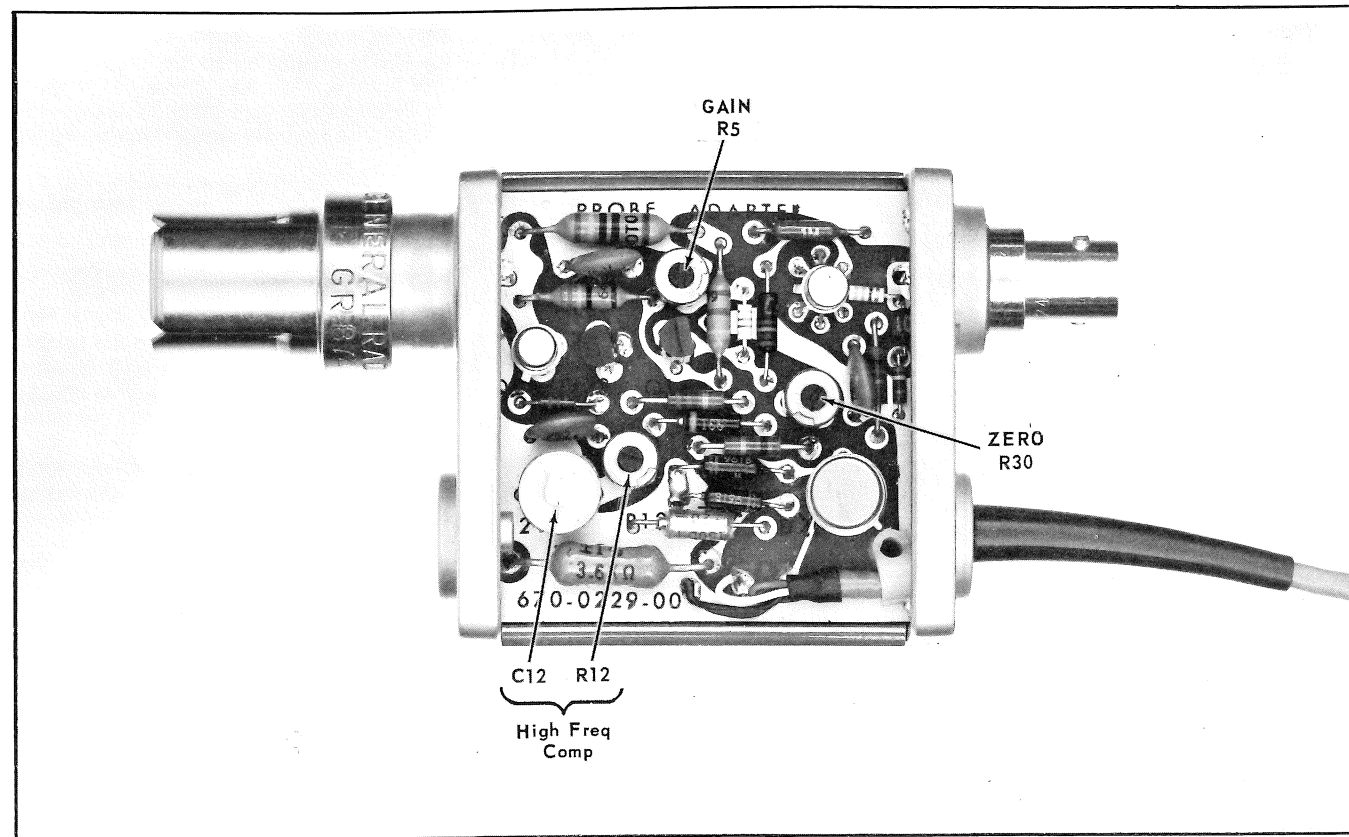

Fig. 5-3. Location of Type 282 calibration adjustments.
- Adjust—ZERO control, R30 (see Fig. 5-3) until the trace is again superimposed on the center horizontal graticule line.
l. Adjust—C12 and R12, see Fig. 5-3, until the displayed waveform matches the waveform noted in part g.